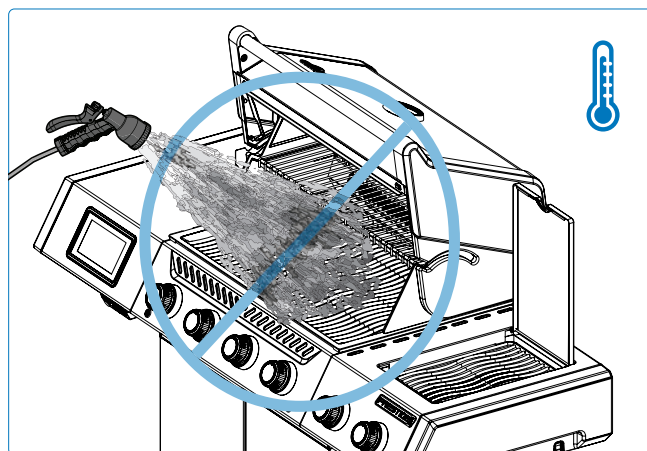

Fig. 16
1. Never douse a flame or control flare-ups with water (**Fig. 16**).